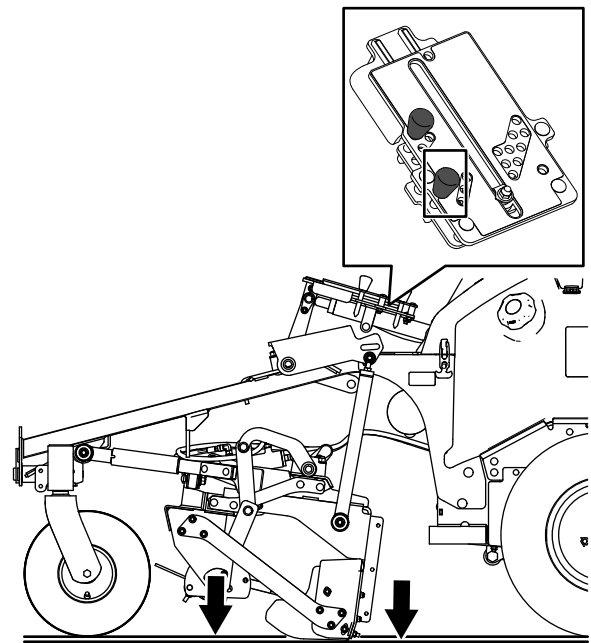

Figure 47
- Grade- or below-grade attachment-stop hole (Figure 47)
3. Loosen the rod end jam nut that secures the rod end to the lift link (Figure 47).